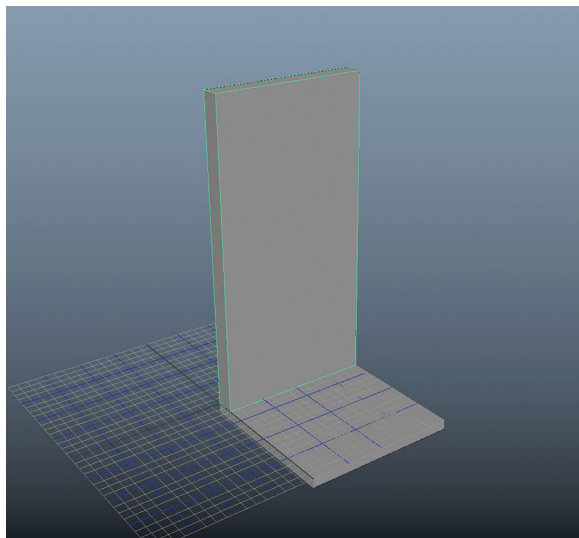

FIGURE 1.50 Creating a base wall module.
Step 3: Base wall dimension. Create a cube and set its Scale X to 256, Scale Y to 512, and Scale Z to 32. Snap its pivot to the lower back corner and then move it to the center of the grid (Figure 1.50).